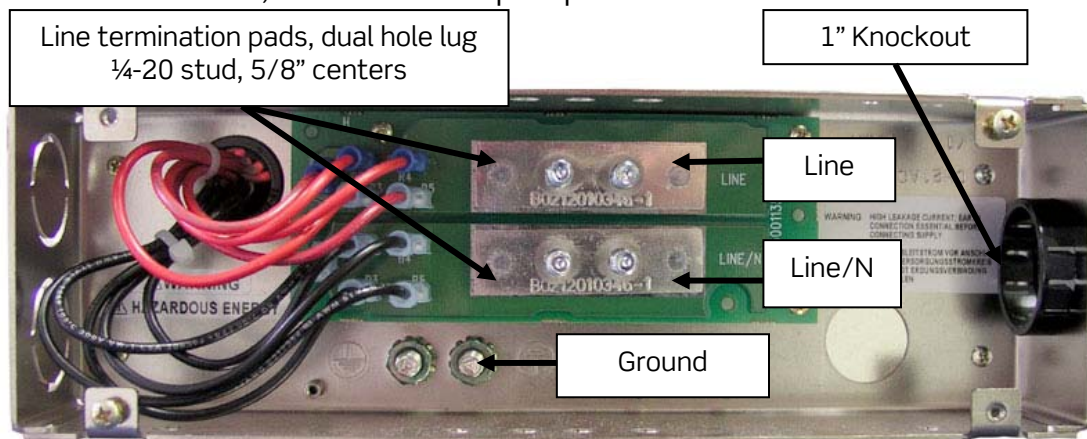

Figure 22 - AC Connections (Single feed)
1. Connect the line/hot wire to the double-stud landing labeled "Line", as shown in Figure 22.